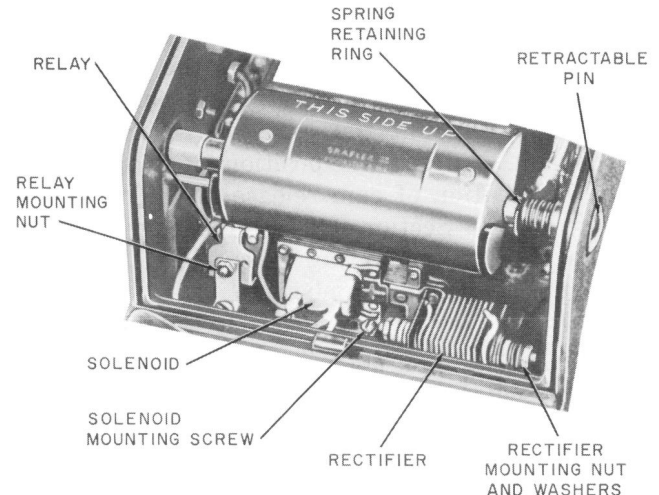

Fig. 13 — KS-14593 L2 Message Register Camera — Partial View Showing Relay, Solenoid, and Rectifier
(1) Remove the camera cover. Pull back the insulating sleeves covering the switch terminals, and tag and unsolder the leads. Remove the switch mounting screws using the 4-inch E screwdriver. Use the R-3193 wrench to hold the nut on the screw nearer the trigger side of the camera while removing the screw, taking care not to lose the associated washer. Remove the switch and mounting block. Remove the switch from its mounting block using the 3-inch C screwdriver. Substitute new parts as required.
(2) Mount the switch on the block and securely tighten the mounting screws. Mount the block with the switch and tighten the mounting screws friction tight making sure that the washer is in place under the nut. Connect and solder the leads. Pull the insulating sleeves up to cover the switch terminals. Adjust the position of the switch to meet the position of the end-of-paper switch requirement in Section 030-301-701 and securely tighten all screws.
3.30 Rectifier: Fig. 13 — Remove the camera cover. Tag and unsolder the rectifier leads. Loosen the rectifier mounting nuts using the R-3193 wrench. Remove the rectifier. Remove the nut and four washers from each end of the rectifier and transfer them to the corresponding positions on the new rectifier. Mount the new rectifier so that two washers are on each side of both mounting brackets. Securely tighten the nuts. Connect and solder the leads. Remount the camera cover.
3.31 Relay: Fig. 13 — Remove the camera cover. Tag and unsolder the relay leads. Loosen the relay mounting nut with the 417A
Fig. 13 and 15 — Remove the camera cover. Pull the retaining ring from the pin with the P-long-nose pliers while holding the spring in place. Remove the spring from the pin and remove the pin. Take care not to lose the washer under the head of the retractable pin at the trigger side of the camera. Substitute new parts as required and mount the parts in reverse order of removal making sure that the washer is in place under the head of the retractable pin at the trigger side of the camera. Remount the camera cover.